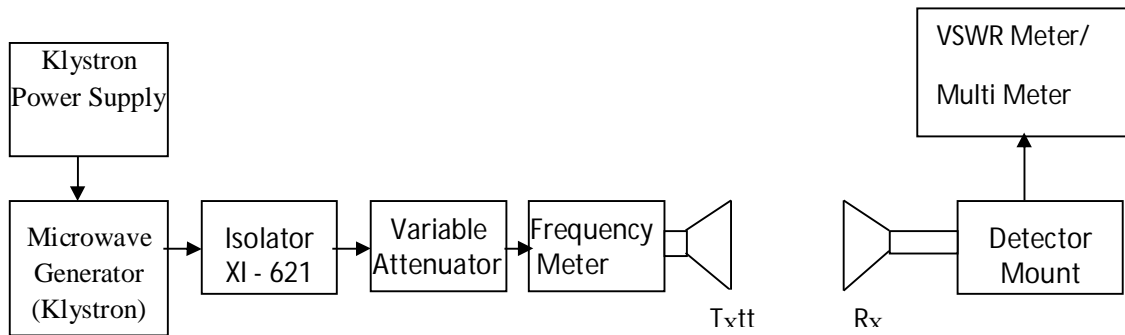

Fig.6.1 Experimental set up to obtain the antenna gain & radiation pattern
1. Set up the equipments as shown in Fig.6.1.